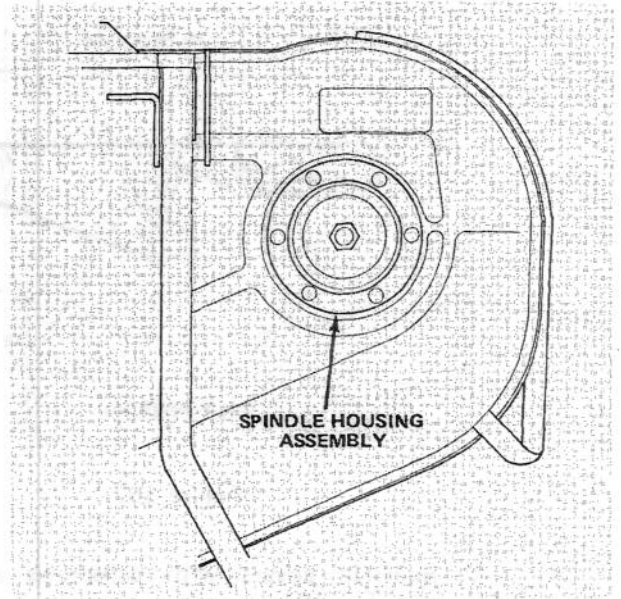

Figure 110
5. Remove six carriage bolts and flange nuts holding spindle housing assembly and support ring against cutting unit (Fig. 110). Slide spindle housing assembly out bottom of cutting unit.